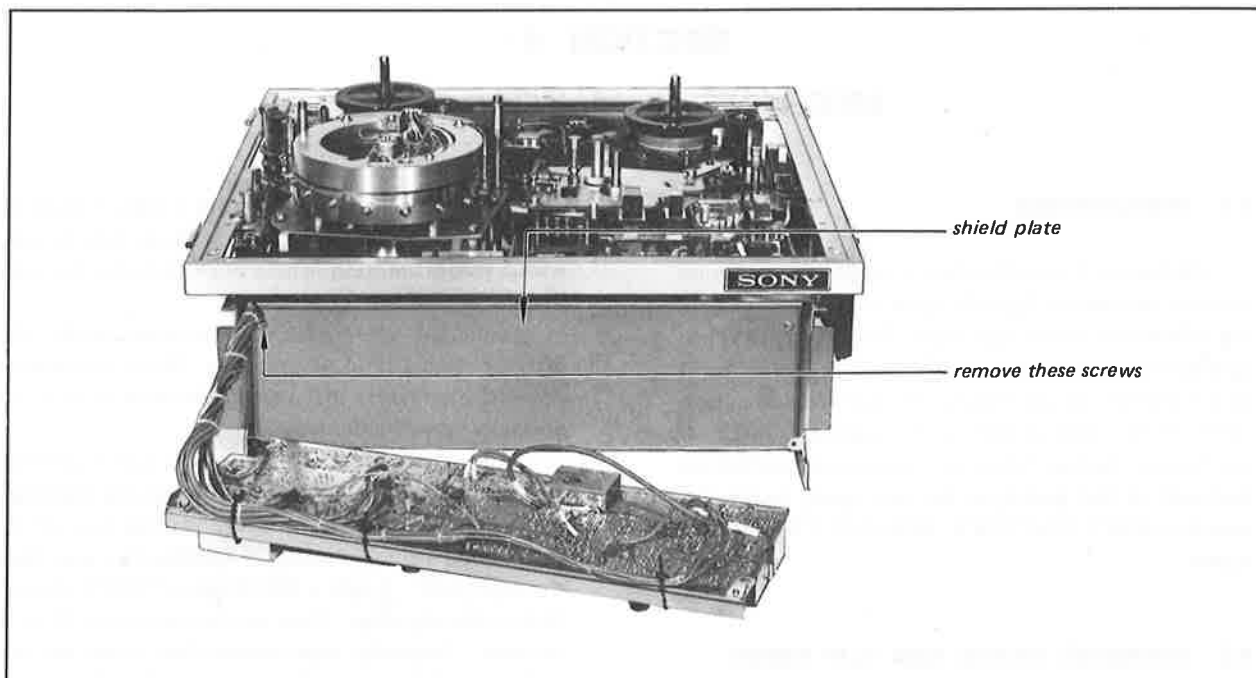

Fig. 3-4. Shield plate removal
3. Remove the two screws securing the Shield Plate, as shown in Fig. 3-4.